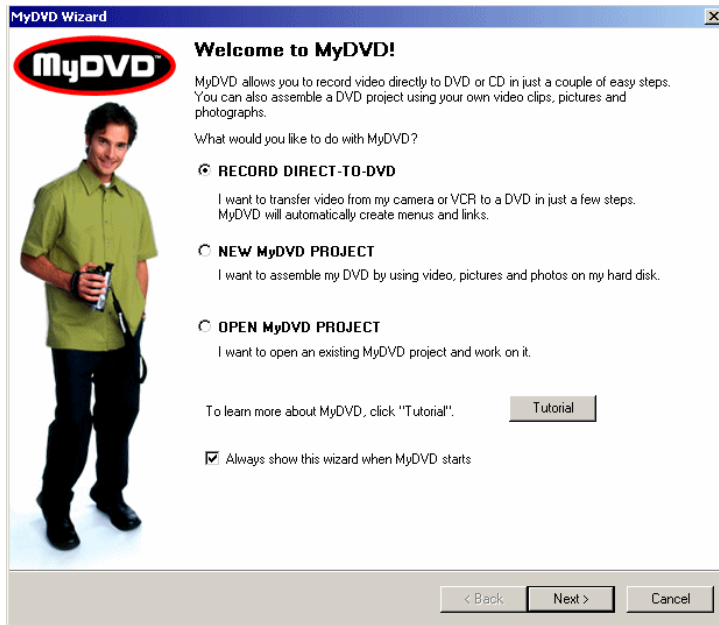

Figure 40 MyDVD Wizard Screen
- Double-click the **HP DVD-Writer** desktop icon (see Figure 37) to open the **hp cd-dvd** screen (see Figure 39), then click **HP MyDVD** to open the **MyDVD Wizard** screen (see Figure 40 on page 74).
- Double-click the **MyDVD** desktop icon (Figure 44). The **MyDVD Wizard** screen appears (see Figure 40 on page 74).
- Select **Start>>Programs>>MyDVD>>MyDVD**. The **MyDVD Wizard** screen appears (see Figure 40 on page 74).
2. Click **HP MyDVD**. The **MyDVD Wizard** screen appears (see Figure 40 on page 74).